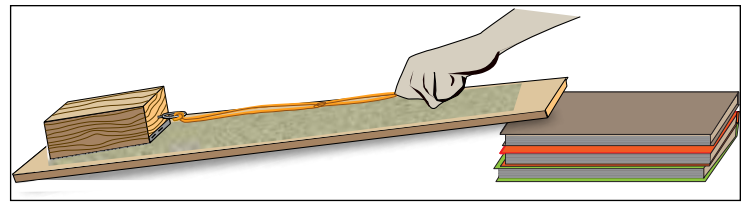

Figure 6: Earthquake Machine on an angled fault plane.
4. **Change the angle of the fault plane:** What would happen when we change the angle of the fault plane? (Figure 6)